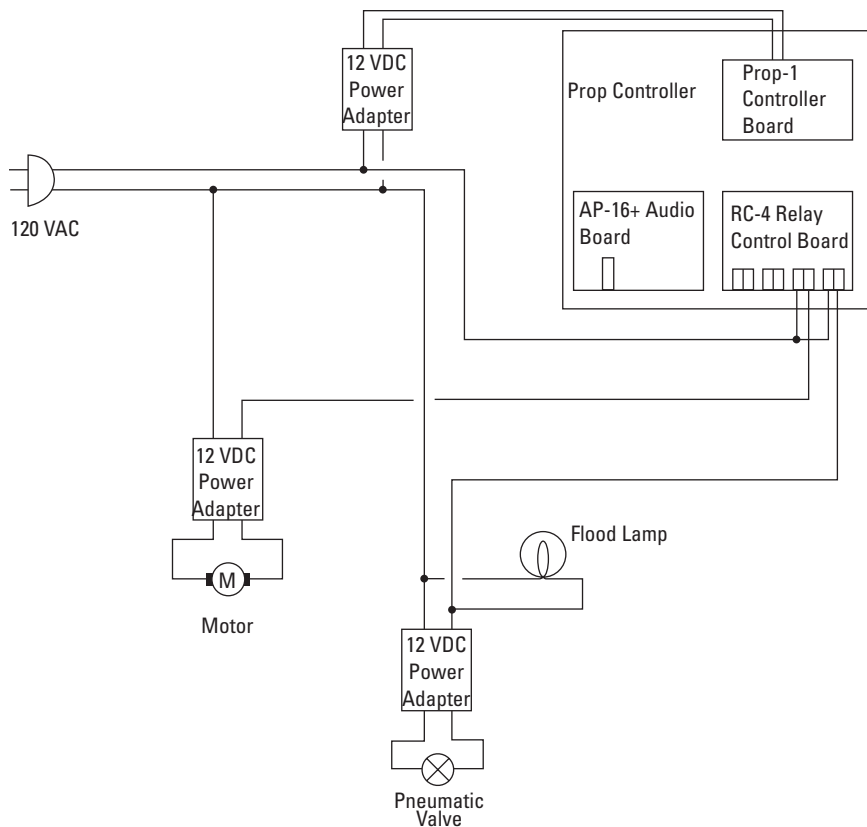

Figure 4-3:
- ◆ Figure 4-3 shows a wiring diagram of the prop so you can get an idea of the prop's electrical requirements. As you can see, the prop requires a total of three, 12 VDC power adapters, commonly known as *wall warts*. The first is to power the prop controller, the second provides 12 VDC for the windshield wiper motor, and the third provides 12 VDC for the pneumatic valve.